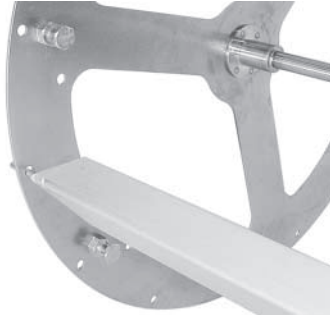

Fig. 24
1. Place pointed end of V-spit into outside hole on non-drive side of rotor (Fig. 24).